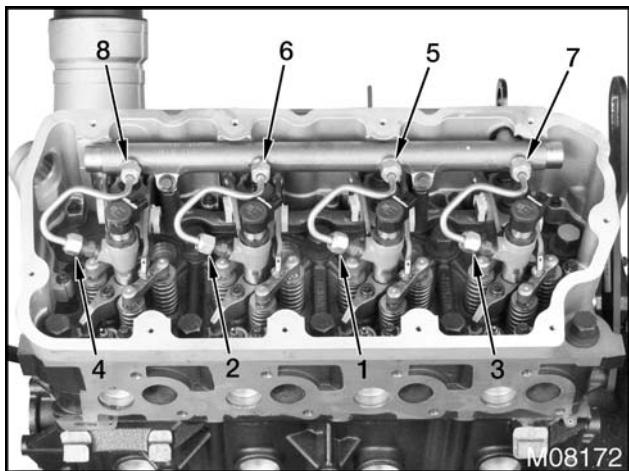

Figure 426 Fuel rail to injector tube assemblies tightening sequence (typical)
12. Fully hand start and seat nuts onto mating connections of all fuel tubes, then pre-tighten with a crowfoot torque wrench following sequence shown in (Figure 426) to 2 N·m (18 lbf-in).
15. Using a crowfoot torque wrench and a second wrench to hold the fuel injector fittings, continue to tighten fuel rail to injector tube assembly nuts following sequence shown in (Figure 426). Tighten four nuts on the fuel injector assemblies first, then four nuts on the rail assembly as follows: